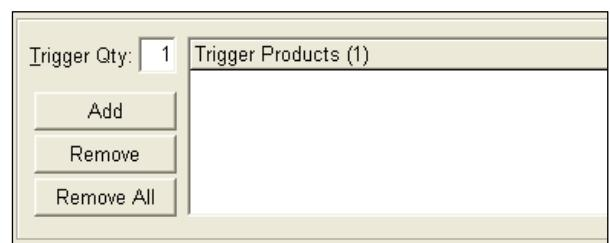

Figure 205
- Whilst in the Multi-Buys window select your trigger product or products by selecting 'Add' (see Figure 205).